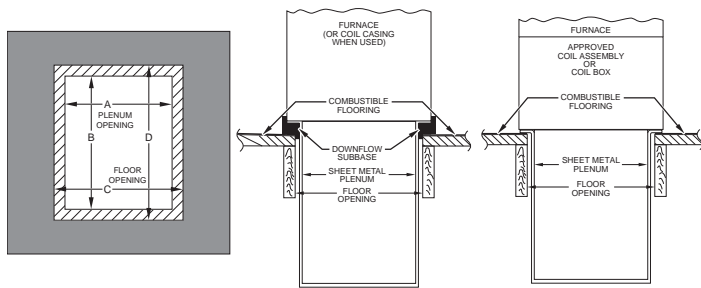

Fig. 25 – Installation on Combustible Flooring
2. Construct hole in floor per Table 5 and Fig. 25.
3. Construct plenum to dimensions specified in Table 5 and Fig. 25.
4. If downflow subbase is used, install as shown. If manufacturer’s cased evaporator coil or coil casing is used, install as shown in Fig. 25.